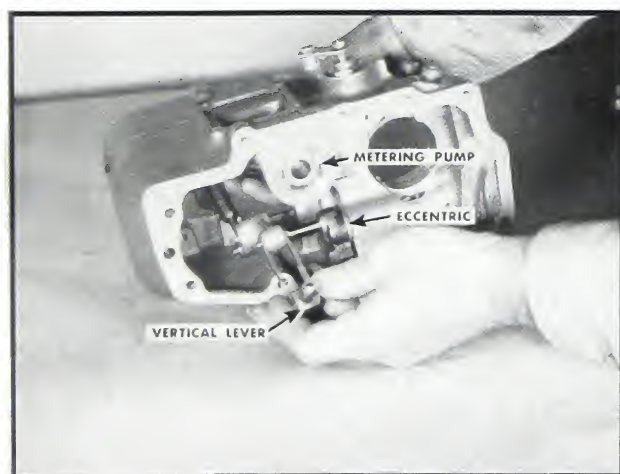

Fig. 5-227. Assembling linkage to eccentric shaft
4. Set eccentric so that it will hit against the maximum fuel stop. Fig. 5-227. Assemble the fulcrum to the eccentric with the fulcrum pin